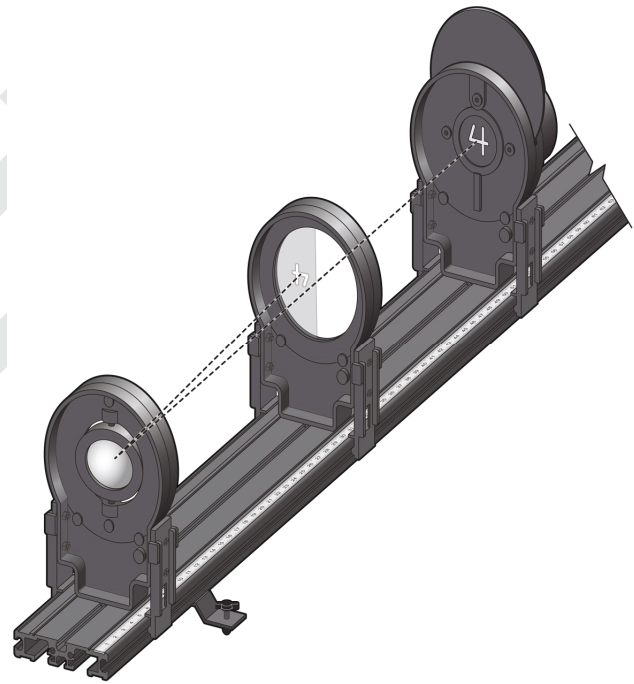

Figure 1
- d. Adjust the position of the screen until the image of the “4” on the screen is in focus (see Figure 1). You may need to adjust the angle of the mirror in its holder so that the image projected by the mirror shows on the screen. One approach to obtain the sharpest image, once you think you have it, is to move the screen in either direction until the image begins to blur, then move it back until it again appears sharp.